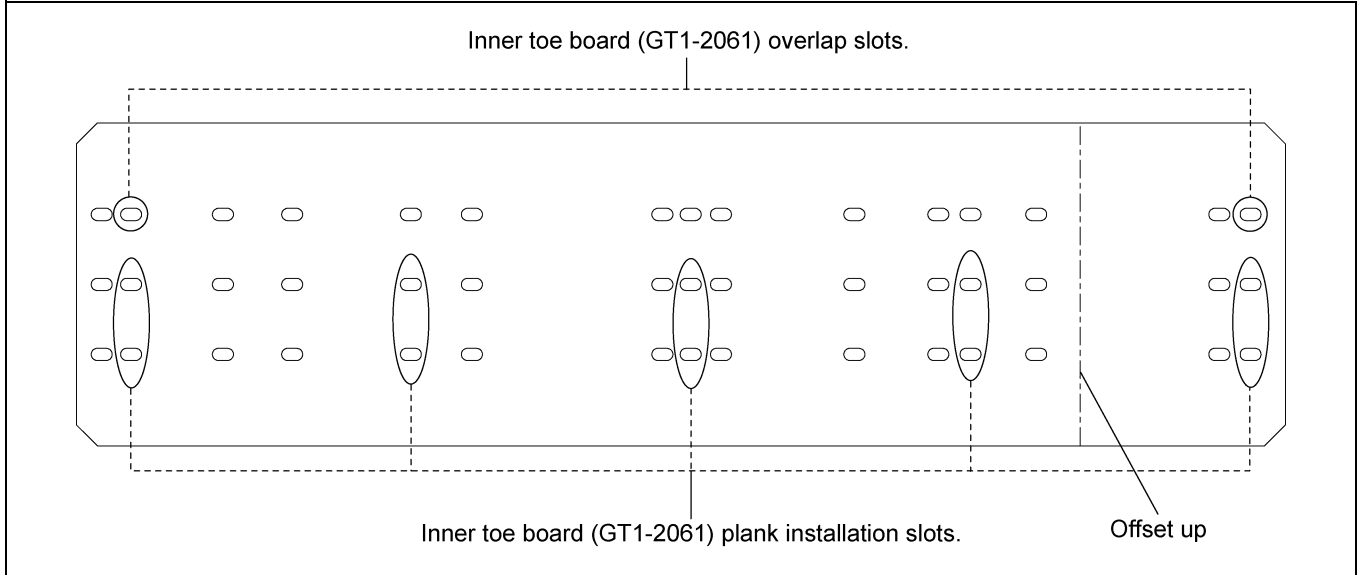

Figure 5K 30' Inner Toe Board (GT1-2061)
3. Inner toe board is arranged with overlap slots on each side and plank installation slots. Install 30' inner toe boards (GT1-2061) to corresponding overlap and plank installation slots as shown in Figure 5K.